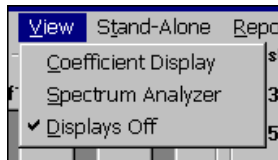

Figure 3-16 Tutorial Display Select Window
53. To return to the Spectrum Analyzer display, click on **View** in the menu bar to bring up the **Display Select** window as shown in Figure 3-16.